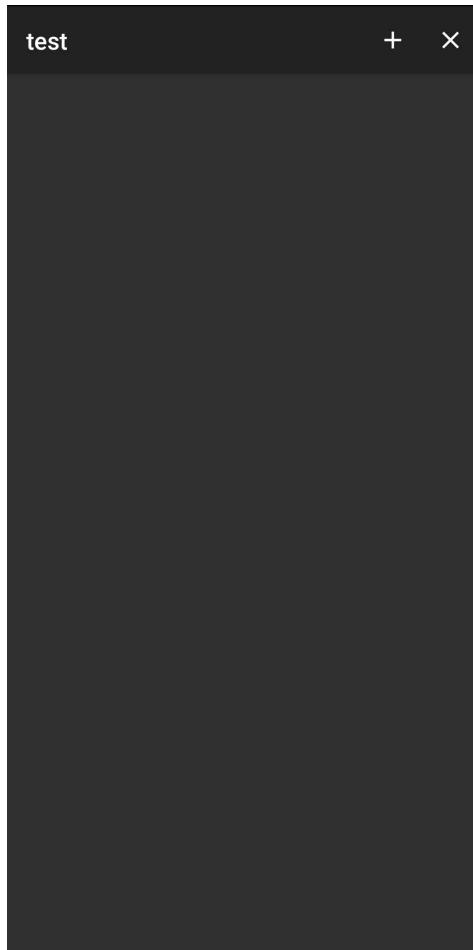

Figure 2.28: Test Room
11. Press the "+" in the upper right corner, add a room e.g. "test", press OK and pick a symbol. Your screen should look as like shown in Figure 2.28.